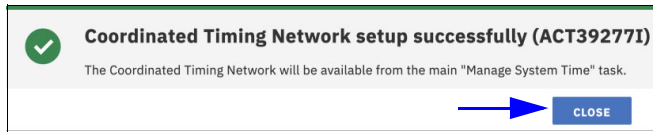

Figure 3-16 Successful CTN configuration message
14. When the configuration is finalized, the successful CTN setup message is shown as in Figure 3-16 on page 50. Click **Close**.